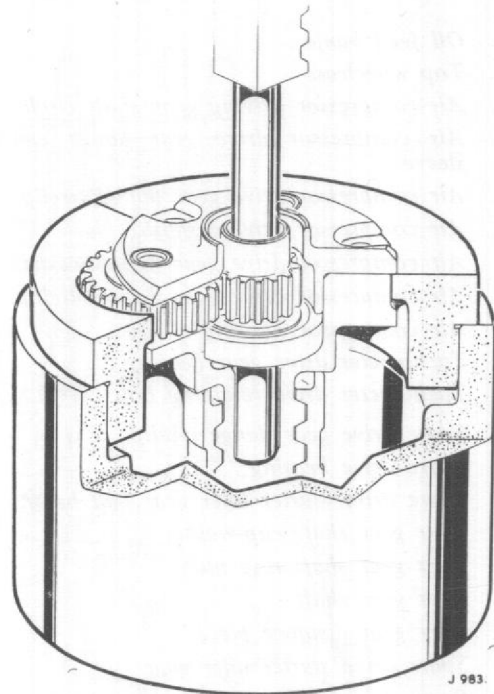

Fig. 3. Split bush T.74822 pot fixture T.74823, and adapter T.74824, for removing planet gear carrier cover.
2. Position the split fixture T.74822 under the lip of the carrier cover and place the carrier on pot fixture T.74823, Fig. 3.